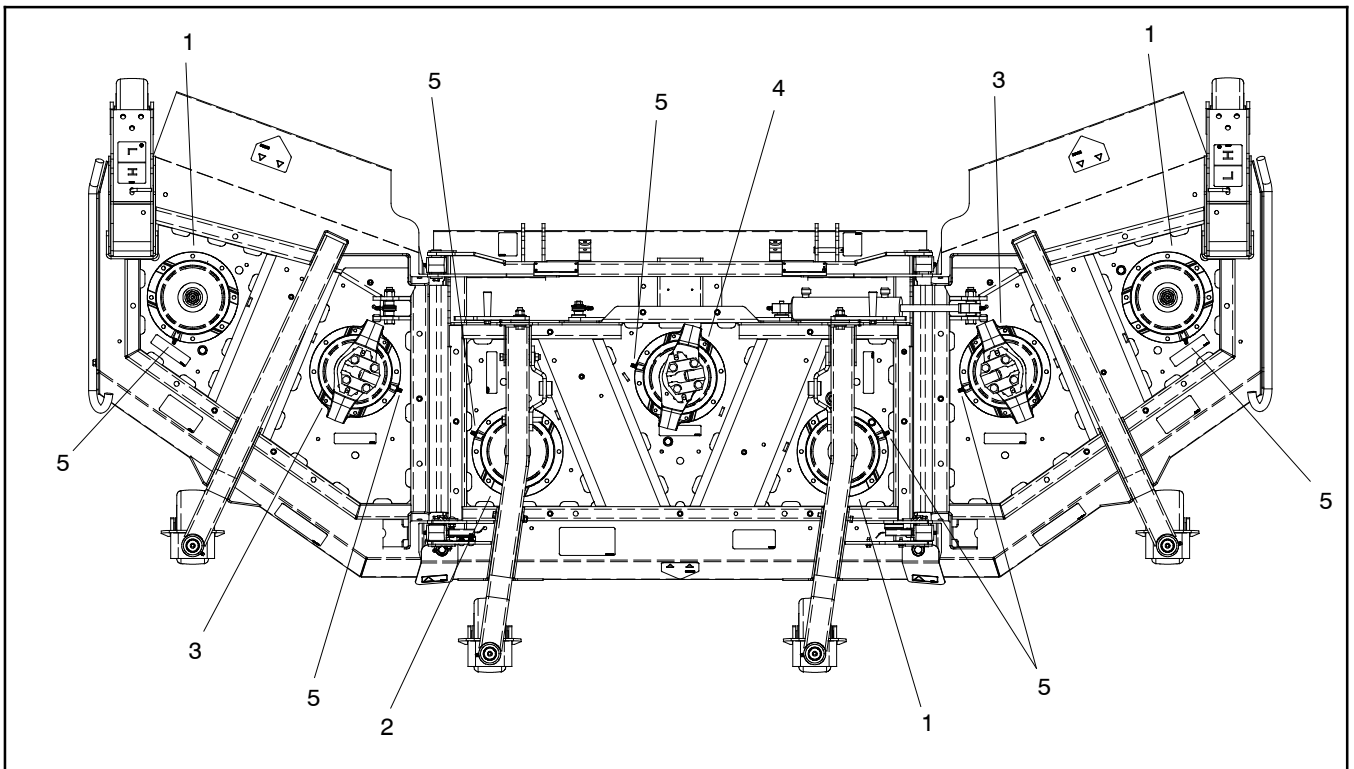

Figure 15
2. Position spindle on cutting deck noting orientation of grease fitting (Fig. 15). Secure spindle assembly to deck with removed fasteners.